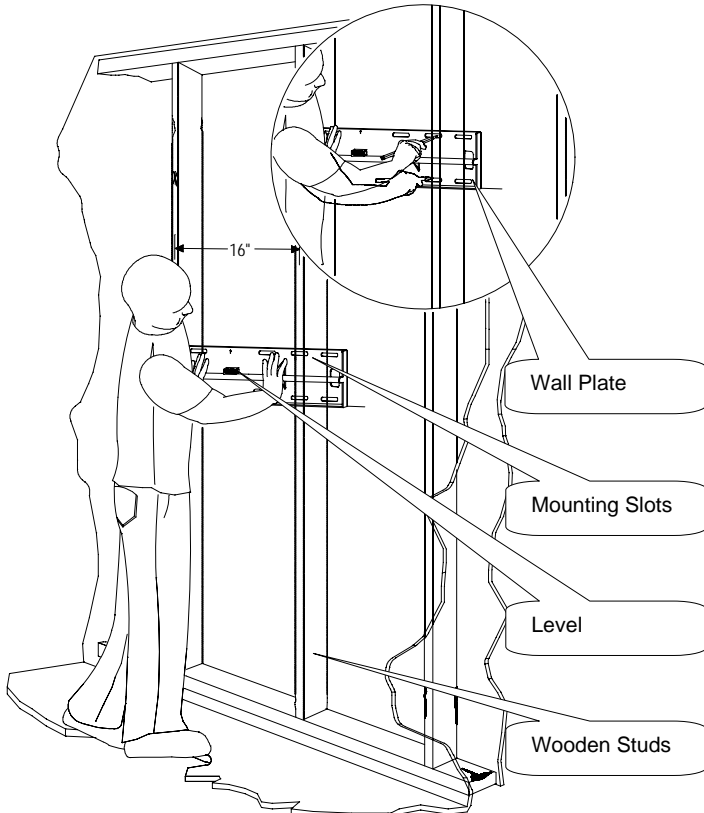

Figure 10
Place the bottom portion of the wall plate to the reference line and mark the four (4) lag bolt mounting points through the wall plate slots on the wall (Figure 10).